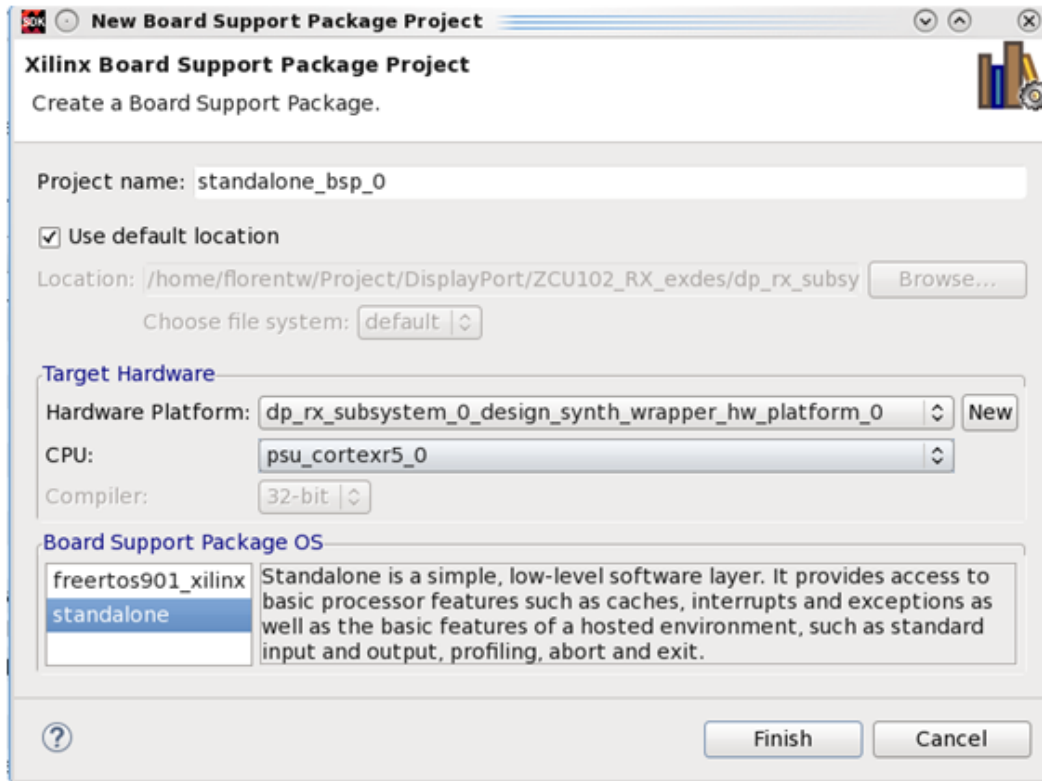

Figure 5-14: New Board Support Package Project
- To create a Board Support Package (BSP), click **File > New > Board Support Package**. Enter the BSP **Project name**, click **Finish** (Figure 5-14), and then **OK**. For ZCU102 board, ensure the target CPU is the Cortex R5\_0 (psu\_cortexr5\_0)